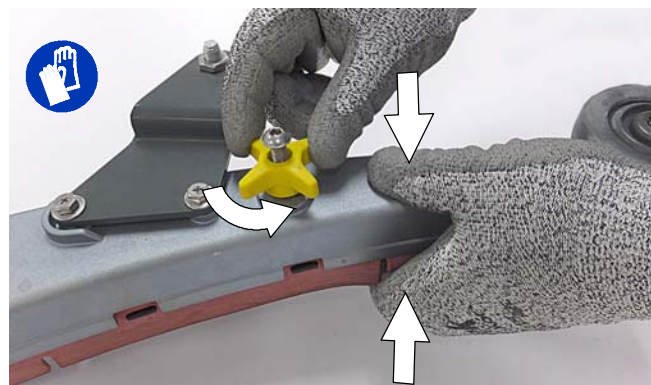

FIG. 86
2. Fully loosen the two outside knobs on squeegee assembly. This will separate the spring loaded blade retainer from squeegee frame (Figure 86). To loosen the knobs quickly, squeeze the blade retainer and squeegee frame together.